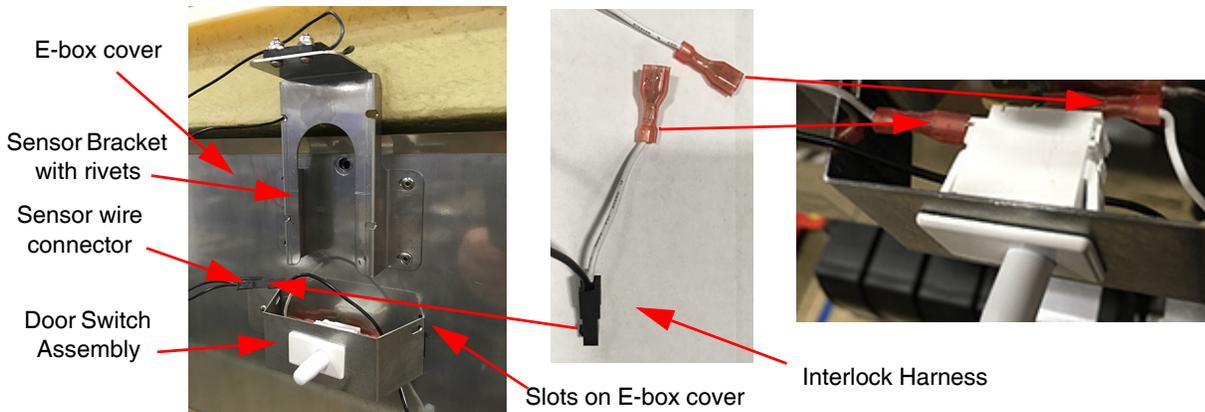

FIGURE 2
To do this, position the sensor bracket in the center of the E-box cover, as shown in FIGURE 2, and secure the bracket using four (4) 1/8” rivets.
To do this, locate the Interlock harness routed through the right-rear side of the E-box and connect the two tab connectors from this harness to the terminals on the door switch as shown in FIGURE 2.